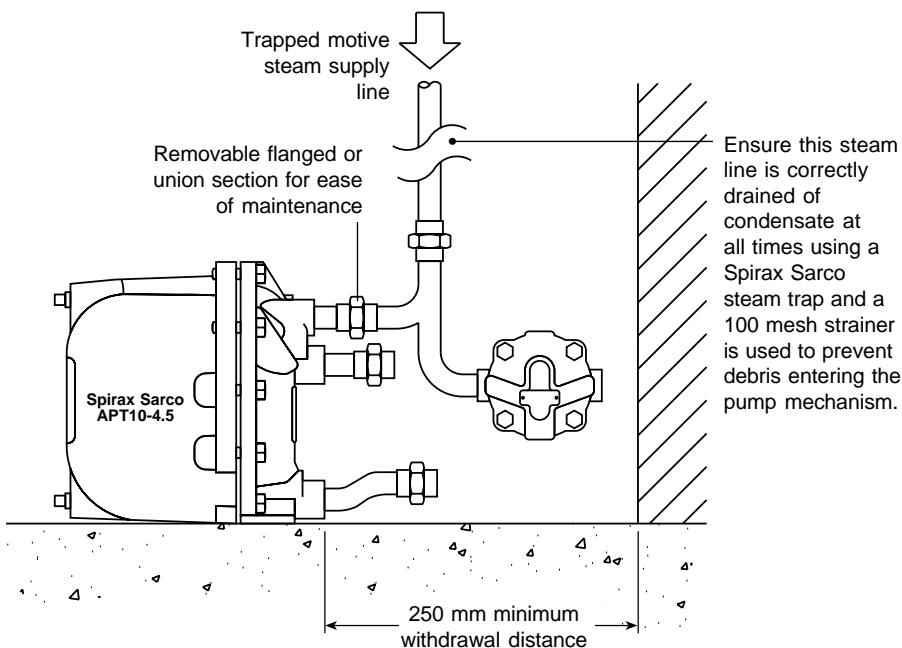

Fig. 4 Suggested coupling of motive supply and exhaust lines
3.3 Connections (refer to installation diagram Fig. 4 opposite)
4.1 After ensuring the inlet and outlet pipe connections and steam motive/exhaust connections are coupled in accordance with Fig.4 and 5, slowly open the motive steam inlet line to supply pressure to the APT10-4.5. Ensure the exhaust /balance line is open and not restricted in any way.